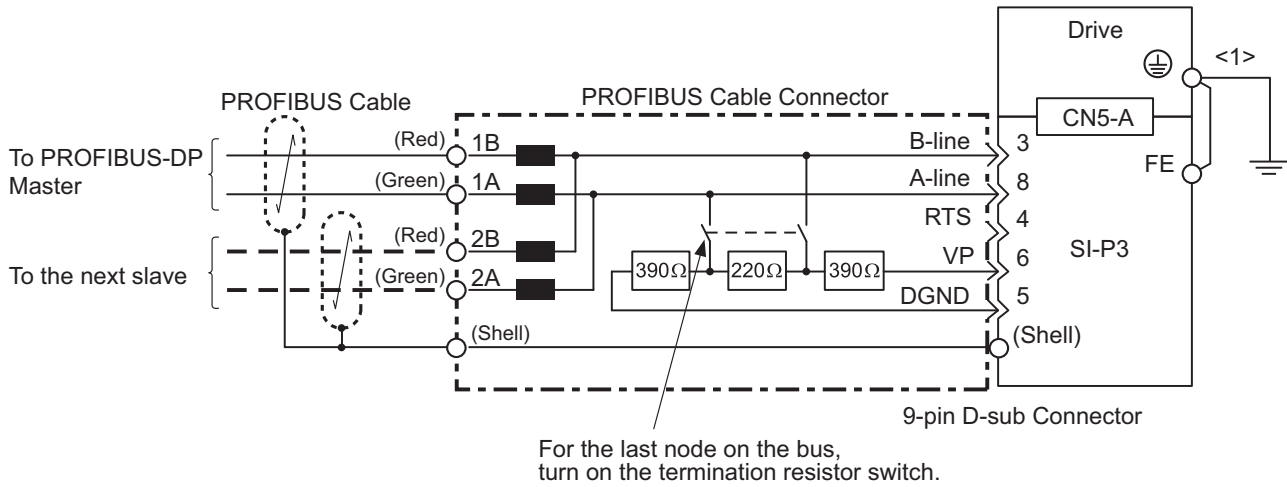

Figure 7 Option Connection Diagram
- Connect the option to the network using a 9 pin D-sub connector as shown in Figure 7.
Termination resistors without inductors as shown in **Figure 9** can only be used for baud rates below 1.5 Mbps. Baud rates 1.5 Mbps and higher require termination with resistors and inductors as shown in **Figure 7**.